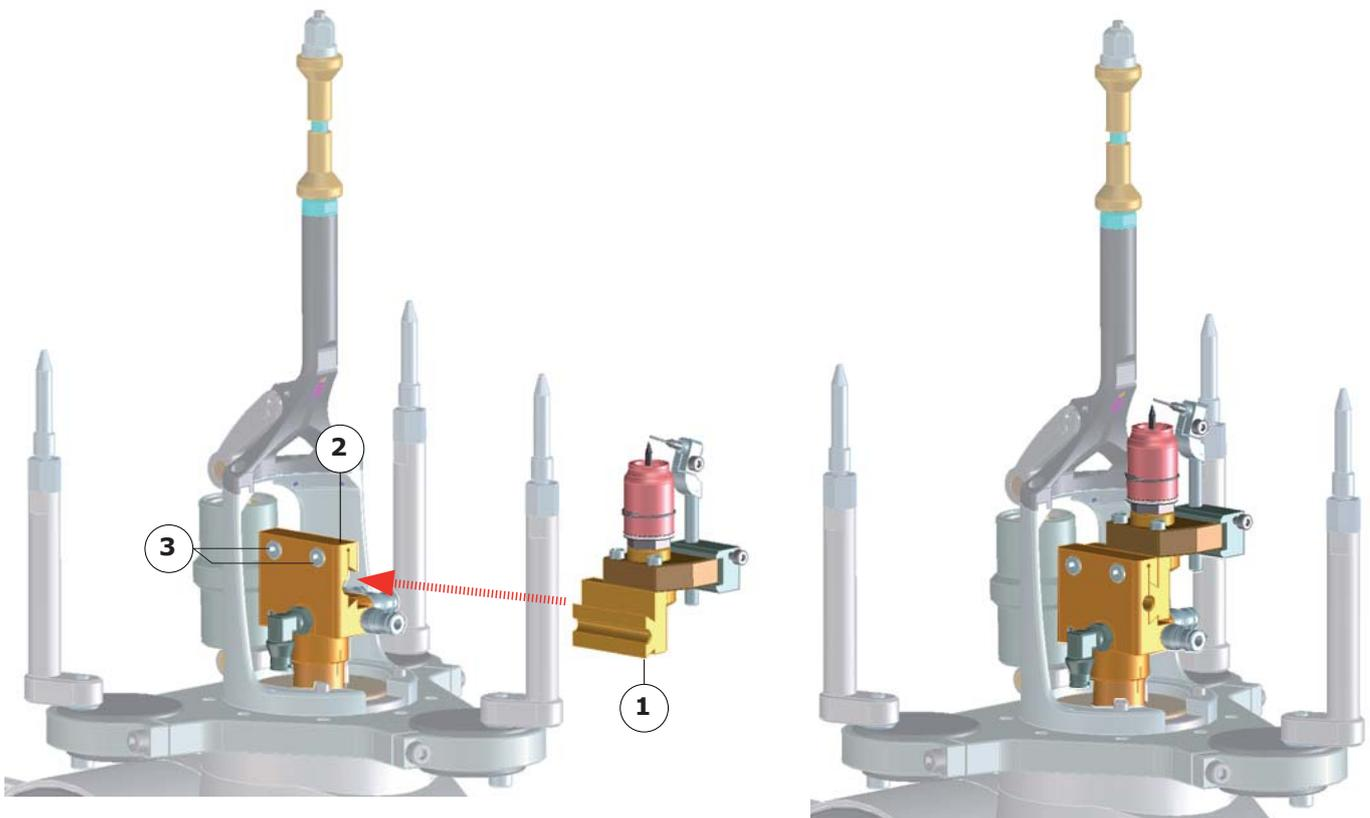

Fig.5.20 - Installing a torch kit
- The two screws (Fig.5.20 - 3) must be unscrewed.
- Insert the torch kit (Fig.5.20 - 1) into the distributor slide (Fig.5.20 - 2).